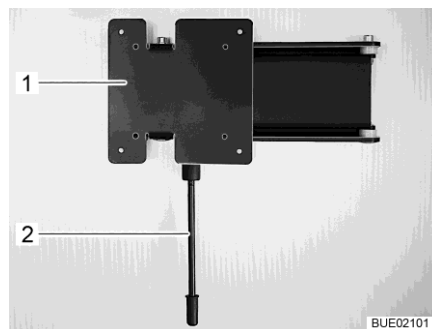

Fig. 90 Wall holder
- Pull down the release lever (Fig. 90,1) and turn the holder (Fig. 90,2) with the flat screen to the desired position.